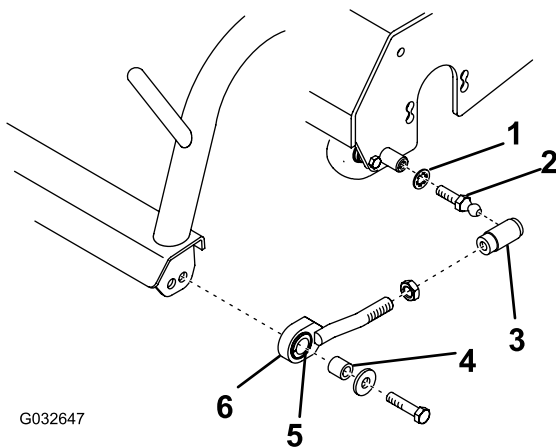
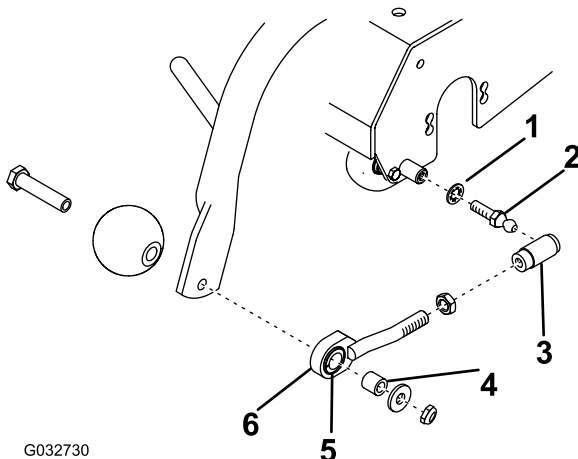

Figure 5
Figure 6
1. Install a ball stud and lock washer to each end of the spiker (Figure 5 or Figure 6).
- B. Assemble a jam nut and ball joint receiver onto each pull link assembly as shown in Figure 5 or Figure 6.
- C. Mount a pull-link assembly to each end of the carrier frame with a spacer, washer, and screw (Figure 5 or Figure 6).
- E. Slide the sleeve back on each ball joint receiver and hook them onto the ball studs (Figure 5 or Figure 6).